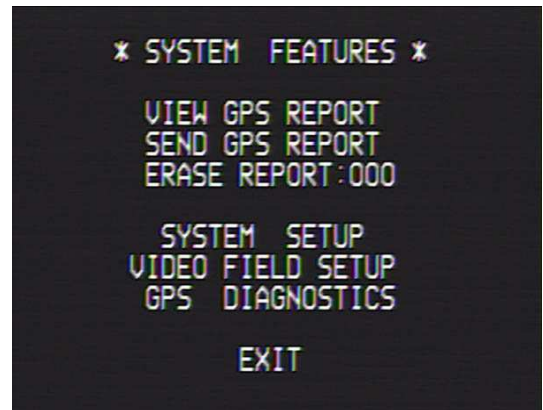

Figure 5, System Features
INSPIRE's record storage and configuration features are accessed using special menus that are guided by the joystick. Entering the menu begins by pressing the joystick's Enter button for three (3) seconds. Once you do that you will see the main System Features menu, as seen in Figure 5.